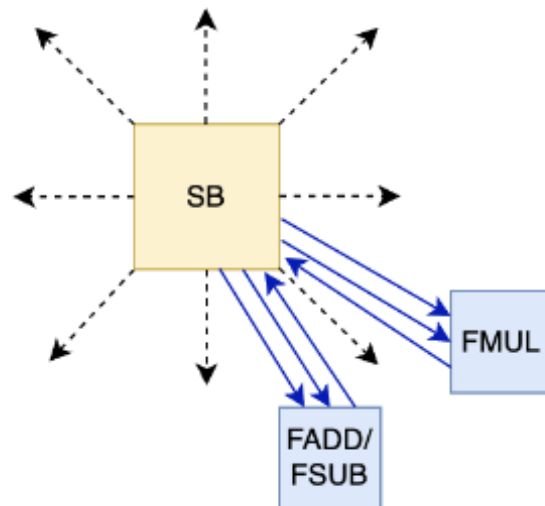

Figure 5: Modified Riken CGRA architecture with two ALUs per tile.
Now we will modify the RIKEN architecture to split the ALU into two ALUs: one capable of add/subtract, and the second capable of multiply. The new tile is shown in Fig. 5. Observe that to make this architecture change, we will need to add a second ALU. As well, we will need to add new inputs/outputs to the switch block (SB). In essence, this increases the logic density of the RIKEN architecture by allowing two ALU operations to be placed in each tile (vs. just one ALU operation in the original RIKEN CGRA). This architecture change has been proposed in this paper [1].